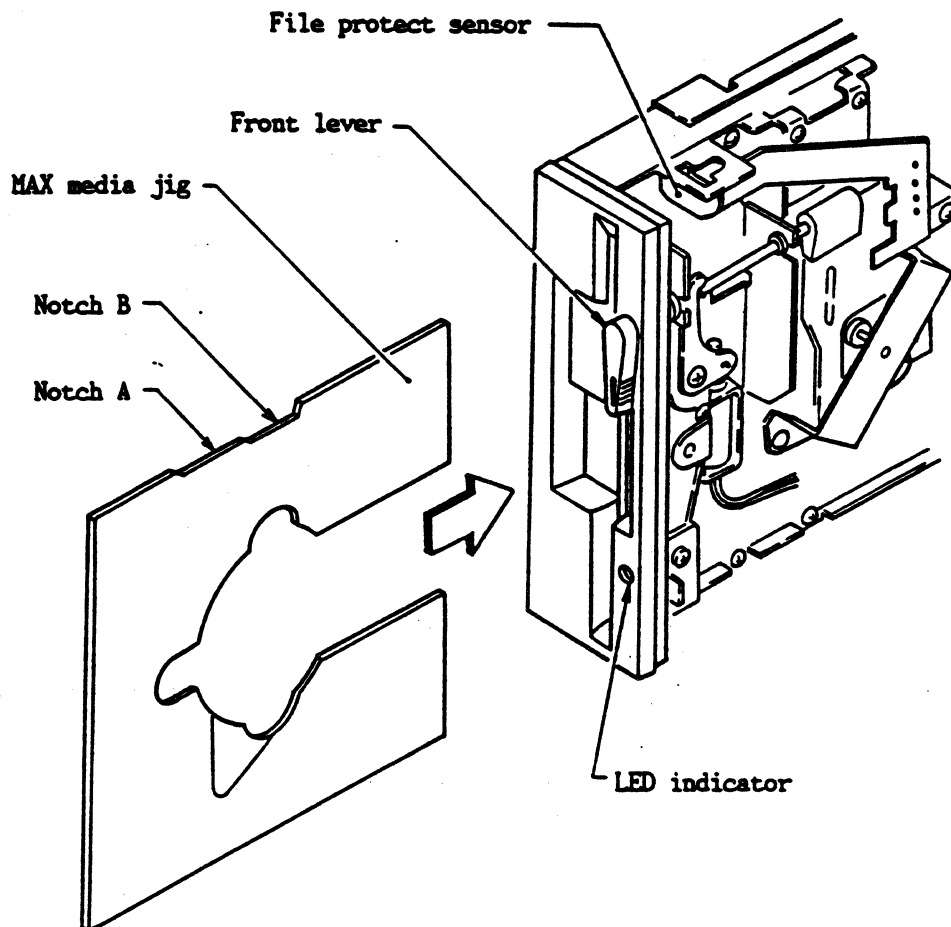

Figure 4-6 Write Protect Sensor
Refer to Figure 4-6.
3. Mount the MAX Media Jig in the position shown in Figure 4-6. Be sure that notch A is above the light path of the Write Protect sensor.